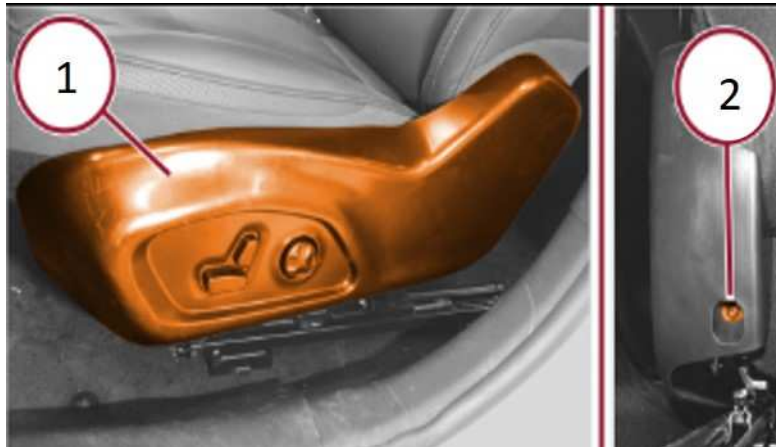

Fig. 1
2. Remove the screw at the rear of the driver's side seat trim (Fig. 1) .
10. Install and securely tighten the screw for the driver’s side seat trim (Fig. 1) .